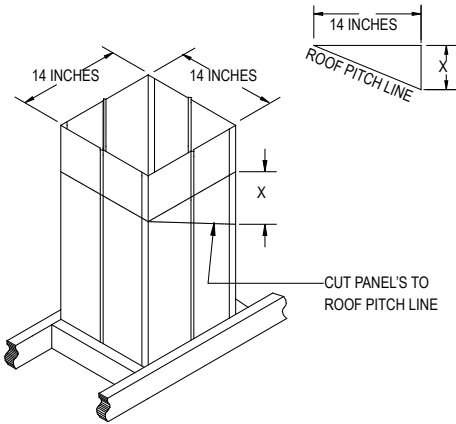

Figure 8
5. Cut Roof Opening: Cut an opening in the roof directly above the opening below, and at least 4 inches larger than the chimney’s outside diameter to provide at least a 2-inch clearance all around the chimney. If the installation is located between rafters that are 16 inches on center, Close Clearance Shields (a sheet metal product fabricated by Simpson Dura-Vent), may be used to avoid structural reframing. (**Figure 8**). The 2-inch minimum clearance to combustibles is not required when the chimney passes through Close Clearance Shields. When using Close Clearance Shields, Ventilated Flashing must be installed. Refer to **Figure 10**, which pictures both Ventilated and Non-ventilated Flashing.